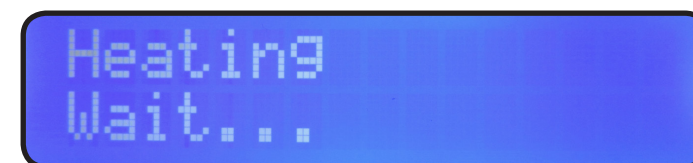

Figure 9. Position of the card to be inserted in the DrugSIP® Multi Analyzer
6. Once these steps have been carried out the Oral Fluid DrugSIP® Cassette sample is ready to be analysed by the DrugSIP® Multi Analyzer device. **The QR code must be visible before placing the kit inside the device.** The detection kit should look as shown in Figure 9. If the QR code is not visible, the screen shows the message “Check card” and the device must be restarted.